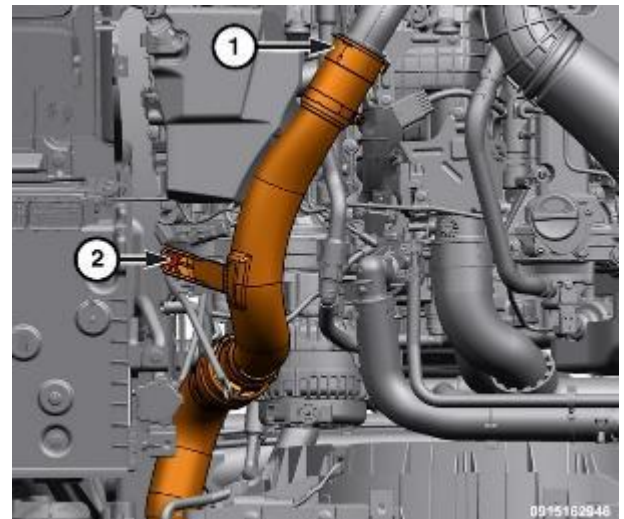

Figure 183 – Charge Air Cooler (CAC) Hose
22. Remove the Charge Air Cooler (CAC) hose bolt (2) securing the CAC hose to the support bracket (Figure 183).
23. Release the retaining clip (1) and disconnect the CAC hose from the turbocharger elbow and position aside (Figure 183).
51. Install the Charge Air Cooler (CAC) hose bolt (2) securing the CAC hose to the support bracket and tighten to 11 N·m (8 Ft. Lbs.) (Figure 183).
52. Attach the retaining clip (1) and connect the CAC hose from the turbocharger elbow (Figure 183).